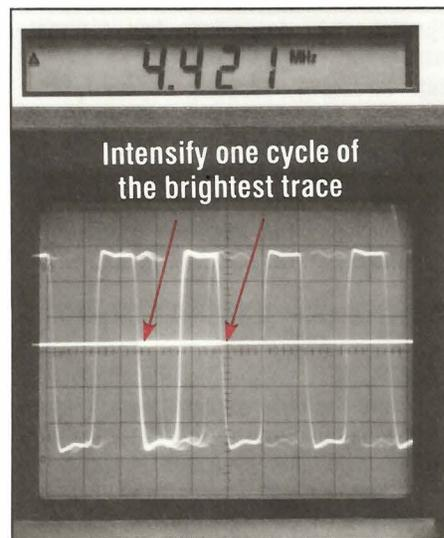

Fig. 4: With a white raster input, the peak white signal is easily identified as the brightest trace. Use 1/DELTA TIME to measure its frequency.
**NOTE: The FM modulator output will be at the peak white frequency for the entire scan time. During retrace it switches to sync tip and burst level frequencies. You will see all of these signals on your SC61. Since white scan time is long compared to retrace time, the peak white signal you want to measure will be the brightest trace. The other signals will be dim in comparison (Figure 4).**
CHANNEL A signal. Use the SC61 DELTA BEGIN and DELTA END controls to intensify one cycle of the brightest sine wave signal (the intensified CHANNEL B trace just touches the signal on both ends) and read the deviation (peak white) frequency on the digital display (Figure 4). It should be very close to the frequency specified in the service literature or in Figure 3.